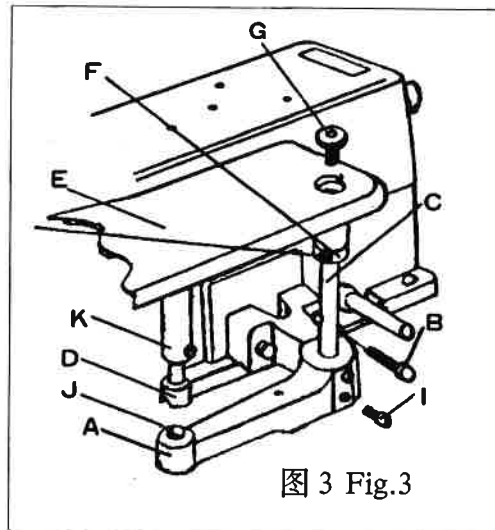

图3 Fig.3
(4) 托板组件的安装(图3)
① 用支座螺钉 "B" 将支座 "A" 固定在机头上(顶销 "J" 和长、短弹簧片已先组装好).
② 将轴肩螺钉 "G" 旋入托架轴 "C" 的螺孔中并紧后将托架轴从上向下插入支座孔中,再套上挡圈 "F",旋紧挡圈螺钉 "H",使托架轴定位,但转动应灵活.
- ③将定位销“D”插入定位套筒“K”的孔中,用螺钉按定位方向固定.
- ④将托架轴“C”插入支座右孔中,调节好托板“E”高度后旋紧螺钉“T”.
- ⑤开闭托板应灵活,能自锁.
(4) Fitting work plate components(Fig.3)
① Fix bracket "A" on machine head with bracket screw "B" (Spring pin "J", short and long spring leaves are already assembled).
② First turn collar screw "G" up tight into the hole of work plate shaft "C", and then insert the work plate shaft into the hole of the bracket,finally put on retainer ring "F" and tighten retainer ring screw "H". Be sure to make the shaft rotate smoothly while securing the work plate shaft in place
③ Insert positioning pin "D" into the hole of positoning sleeve "K" and turn it up tight with screw in direction of location.
④ Insert work plate shaft "C" into the right hole of the bracket,after regulating the height of the wore plate "E", tighten screw "T".
⑤ Be flexible to open or close work plate; capable of auto-lock control of it.